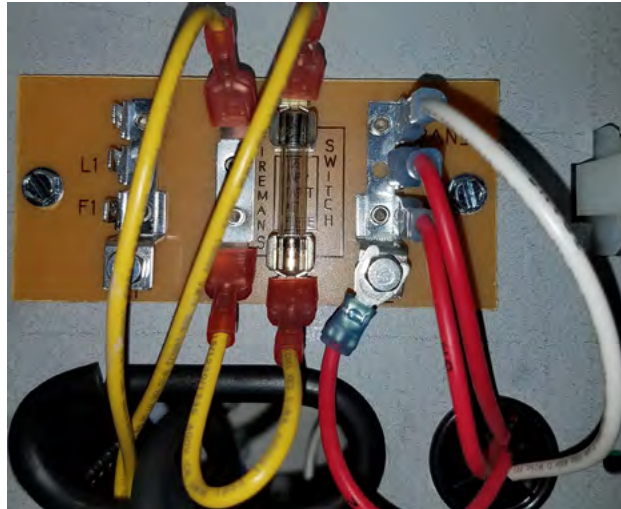

Figure 35.
3. Locate the **Fireman Switch jumper wire**; remove the wire. See Figure 35 below.
4. Connect the **Remote Control Dry Contact wires**. See Figure 35 below.